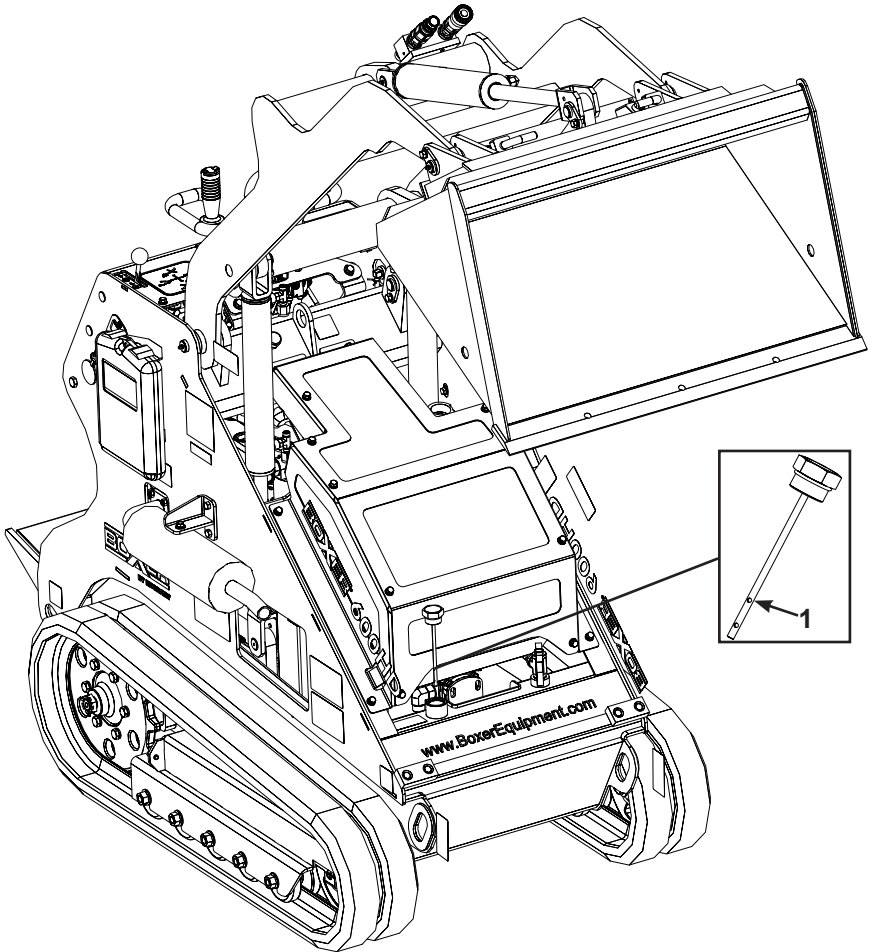

Figure 4-25 Hydraulic Fluid Level Dip Stick
NOTE: The hydraulic dipstick is located underneath the hydraulic filler plug, located along the front of the machine. See Figure 4-25.
- e. Unscrew the dipstick assembly and remove from the machine. (1, Figure 4-25) and fill the hydraulic tank with the proper hydraulic fluid (Chevron Rykon Premium ISO 46 or equivalent) until the fluid level is just below the upper marker hole in the dipstick.